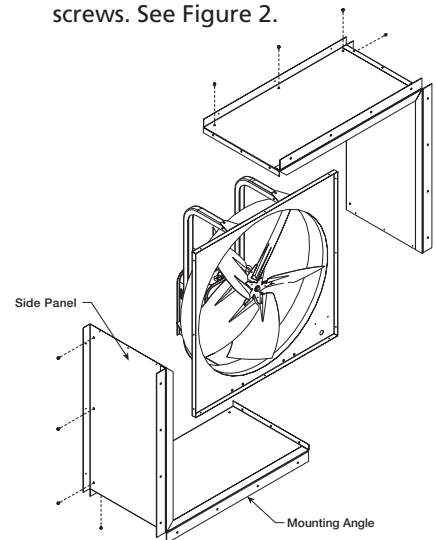

Figure 2 — Wall Collar Assembly
1. Fasten (2) side panels together with 5/8" length supplied sheet metal screws. See Figure 2.